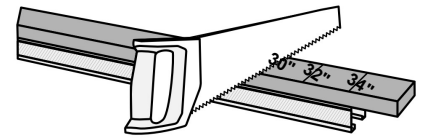

Figure 1
- Cut the wood header (with the marked side facing up) at the corresponding size marking for your door width. (see Figure 1)